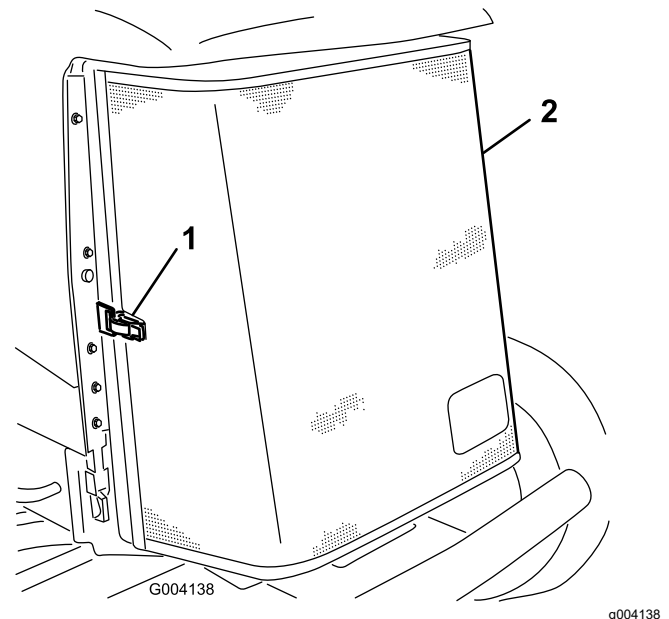

Figure 64
3. Unlatch the clamp and pivot open the rear screen (Figure 64).